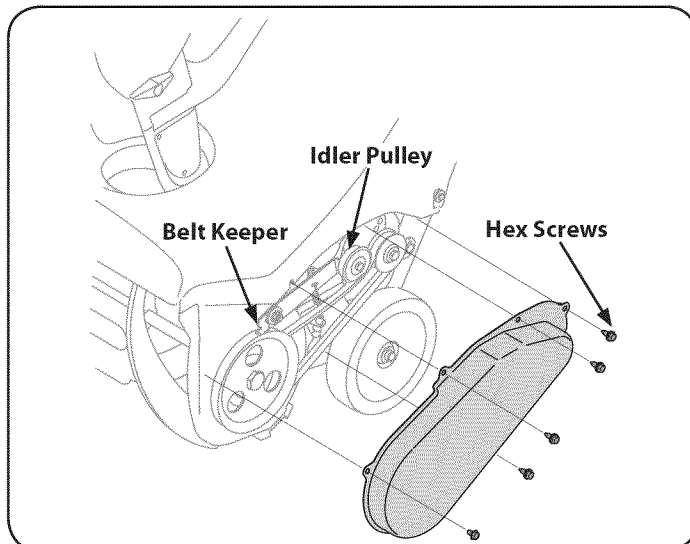

Figure 16
1. Remove the belt cover by removing the five hex screws that secure it to the frame. See Figure 16.
NOTE: Push down on the idler pulley to release the belt from under the belt keeper. See Figure 16.